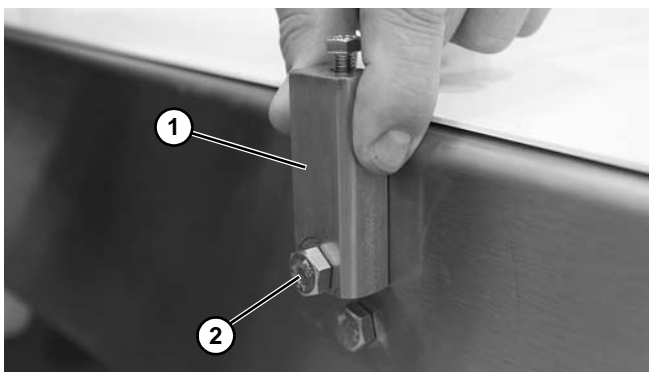

Figure 35
2. Assemble the mounting block (**Figure 35, item 1**) to the conveyor side with the screw (**Figure 35, item 2**), provided.